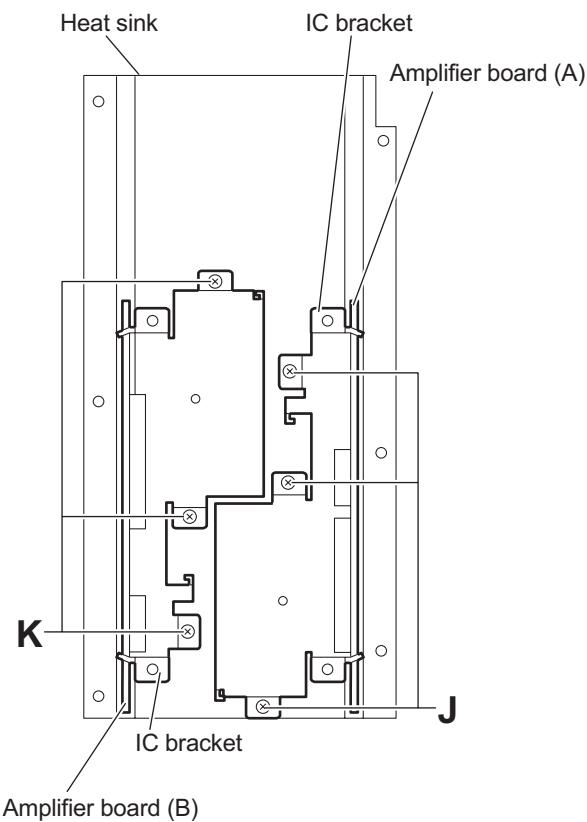
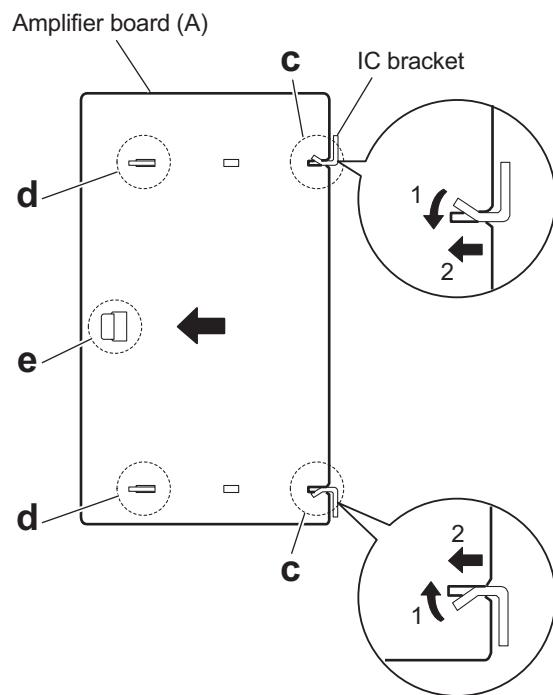

Fig.10
Fig.11
### 3.3.5 Removing the amplifier board (A) (See Figs.10 and 11)
- (1) Remove the three screws **J** attaching the IC bracket. (See Fig.10.)
- (2) Remove the amplifier board (A) from the heat sink together with the IC bracket.
- (3) Disengage the engagement sections **c**. (See Fig.11.)
- (4) Slide the amplifier board (A) in the direction of the arrow and then disengage the amplifier board (A) from the engagement sections **d** and **e** of the IC bracket. (See Fig.11.)
After attaching the IC bracket to the amplifier board (A), apply the bond to the engagement sections **c** and **d**. (See Fig.11.)
### 3.3.6 Removing the amplifier board (B) (See Figs.10 and 12)
- (1) Remove the three screws **K** attaching the IC bracket. (See Fig.10.)
- (2) Remove the amplifier board (B) from the heat sink together with the IC bracket.
- (3) Disengage the engagement sections **f**. (See Fig.11.)